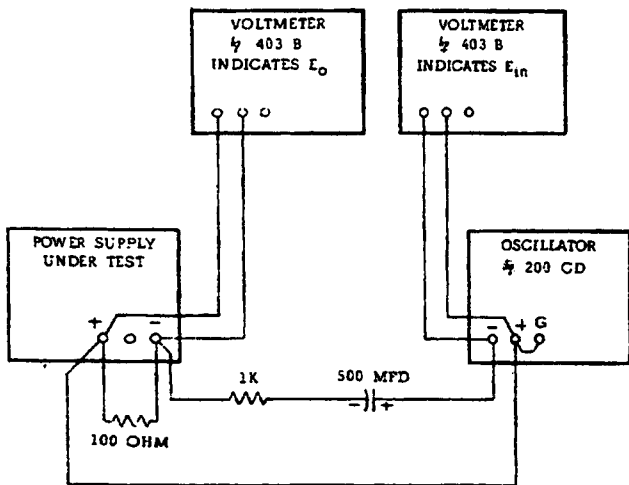

Figure 5-9. Output Impedance, Test Setup
- Connect test setup shown in Figure 5-9.